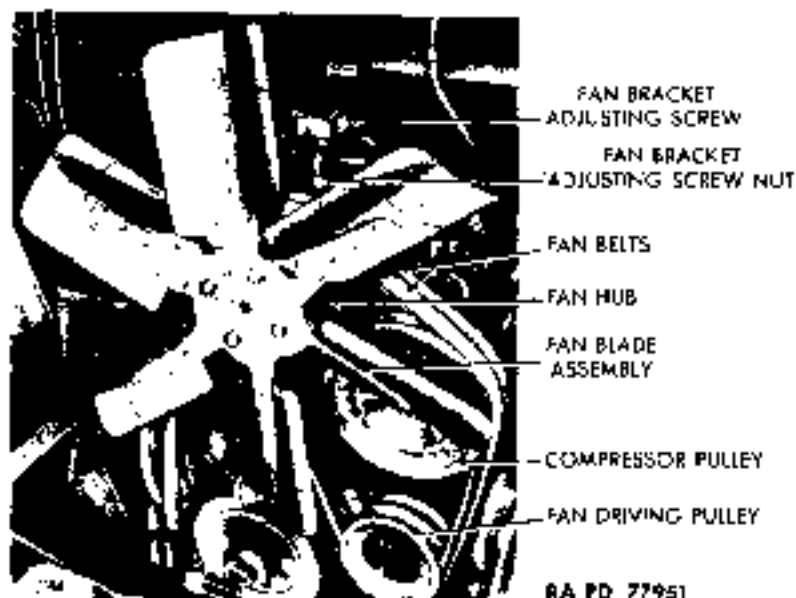

Figure 42 -- Fan and Belts Installed
(1) DESCRIPTION (fig. 42). The fan is the roller-bearing type mounted on a bracket at front of engine and belt driven by a pulley on the engine accessory shaft.
(2) TABULATED DATA.
(4) REMOVE ENGINE FAN COVER ASSEMBLY. Remove five remaining bolts (with one lock washer, two flat washers, and one nut on each) that secure engine fan cover assembly to dash, and lift assembly out.
(5) REMOVE FAN BLADE ASSEMBLY (fig. 42). Remove four cap screws that secure fan blade assembly to fan hub. Lower fan blades through space between radiator and motor. Take off gasket.
(6) REMOVE FAN HUB AND PULLEY. Loosen fan bracket clamp nut. Loosen fan adjusting screw lock nut. Turn fan adjusting screw to lower hub and pulley. Lift fan belts from pulley. Remove three hex cap screws and one slotted countersunk screw securing fan bracket to engine. Lift out fan hub and bracket.
(1) INSTALL FAN HUB AND PULLEY (fig. 42). Install fan hub and pulley by fastening bracket to engine with three hex screws and one slotted countersunk screw. Install fan belts.
(2) INSTALL FAN BLADE ASSEMBLY (fig. 42). Install fan blade assembly, using a new gasket, and secure assembly to hub with four hex screws. Turn fan adjusting screw to tighten fan belts until they have  $\frac{1}{2}$ -inch play. Tighten fan adjusting screw lock nut. Tighten fan bracket clamp nut.
(3) INSTALL ENGINE FAN COVER ASSEMBLY. Place engine fan cover assembly in position, and secure to dash with five bolts (two flat washers, one lock washer and one nut on each). Leave out top left-hand bolt.
(1) **DESCRIPTION** (fig. 42). Two V-type fan belts are mounted on grooved pulleys connected to fan, air compressor, and accessory drive shaft, and drive the fan and air compressor. Belts are rubber and fabric composition.
b. **Adjustment** (fig. 42). Loosen fan bracket adjusting screw nut and fan spindle jam nut. Turn fan bracket adjusting screw clockwise to tighten, counterclockwise to loosen. Deflection permissible is between 1/2 inch and 3/4 inch. After adjustment is made, tighten bracket adjusting screw nut and spindle jam nut.
c. **Removal** (fig. 42). Loosen bracket adjusting screw nut and spindle jam nut, and turn adjusting screw to force spindle down. Lift belts from pulleys.
d. **Installation** (fig. 42). Position belts on pulleys. Turn adjusting screw until belts can be flexed from 1/2 inch to 3/4 inch at mid-position when pressed with fingers. Tighten adjusting screw nut and spindle jam nut.